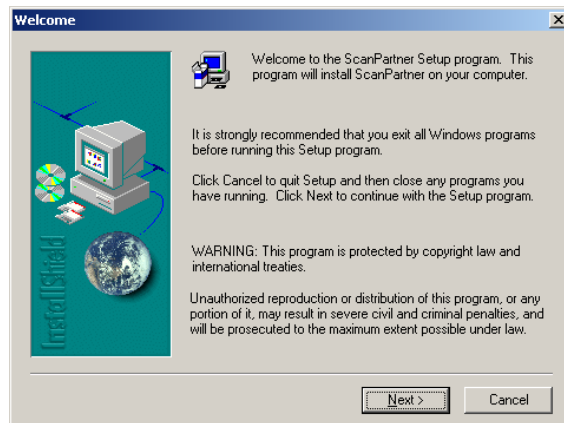

Figure 35. ScanPartner® Setup
- 6 The ScanPartner® setup program will launch. Select **Next** again as shown in Figure 35.